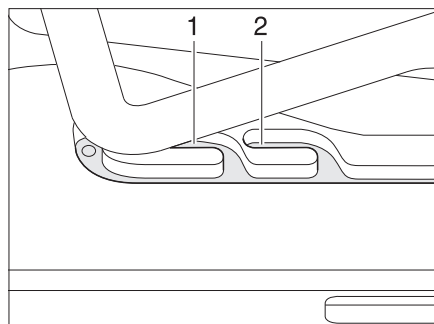
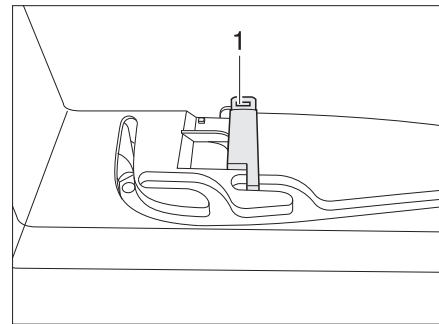

Fig. 48 Heki skylight in ventilation position
Fig. 49 Ventilation position locking mechanism
The Heki skylight can be put in two ventilation positions: Bad weather position (Fig. 48,1) and central position (Fig. 48,2). Depending on the model, the skylight can be locked in the central position with the latch (Fig. 49,1).
- Push the bar slightly upwards and into the selected guide (Fig. 48,1 or 2) and lock if necessary.